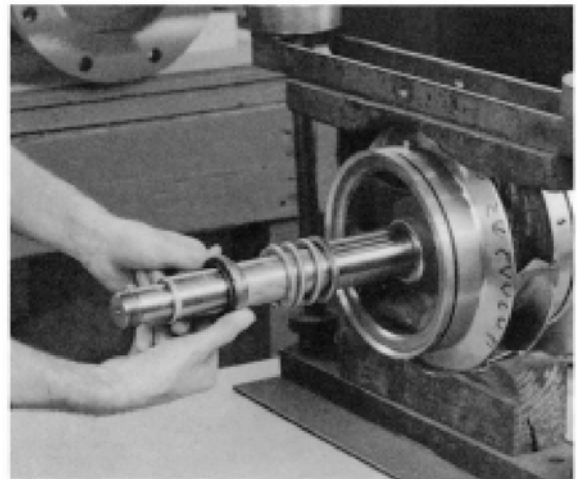

FIGURE 36 – SEAL HEAD INSTALLATION
9. Lightly coat the outboard end of the shaft with STP motor oil treatment or equal and slide the mechanical seal head (0-400-0) onto the shaft (See Figure 36). **NOTE:** Standard mechanical seal for this arrangement is a modified John Crane, Type 21 Mechanical Seal.